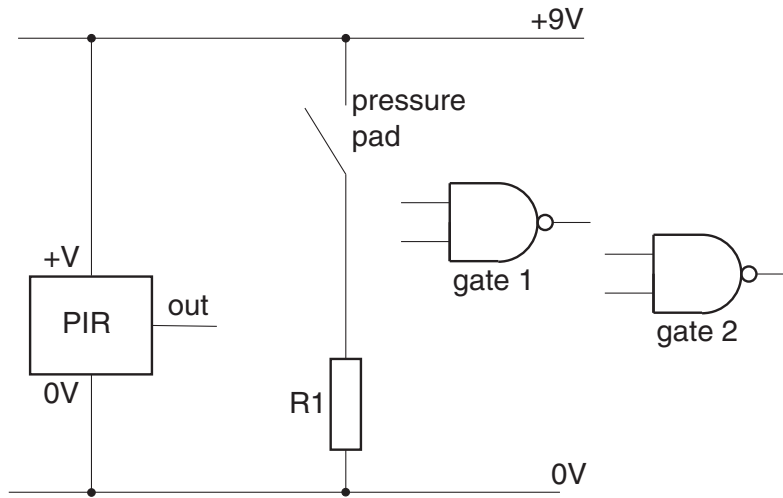

Fig. 14
4 (a) Fig. 14 shows part of the input circuit for a garage alarm system. The system is triggered by a pressure pad or a passive infra red (PIR) sensor.
- (i) Complete the input circuit by adding the following components to Fig. 14.